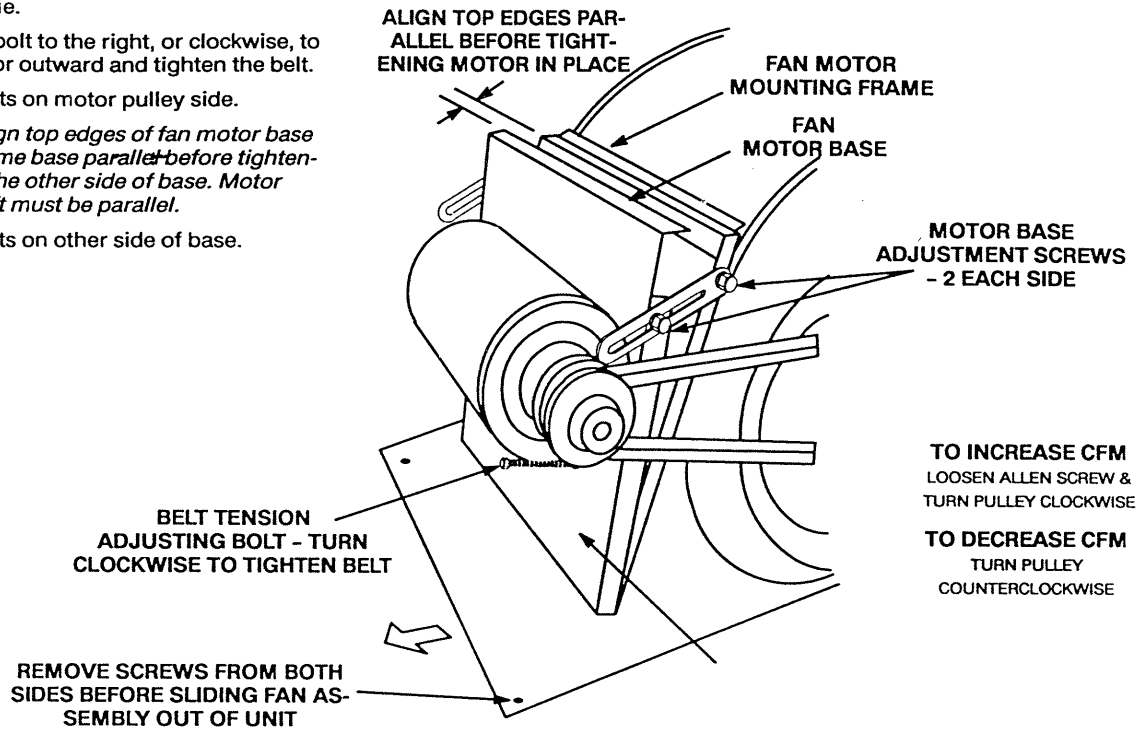

FIGURE 11
- 2- Remove screws on either side of fan assembly sliding base. See figure 11.
- 5- The fan RPM can be adjusted at the motor pulley. Loosen Allen screw and turn adjustable pulley clockwise to increase CFM. Turn counterclockwise to decrease CFM. See figure 11.
- 1- Loosen four bolts securing motor base to mounting frame. See figure 11.